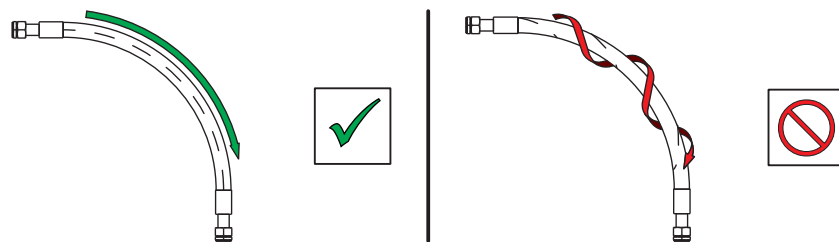

Fig. 22: Install hose lines without twisting
- Install the hose lines without twisting: Fig. 22.